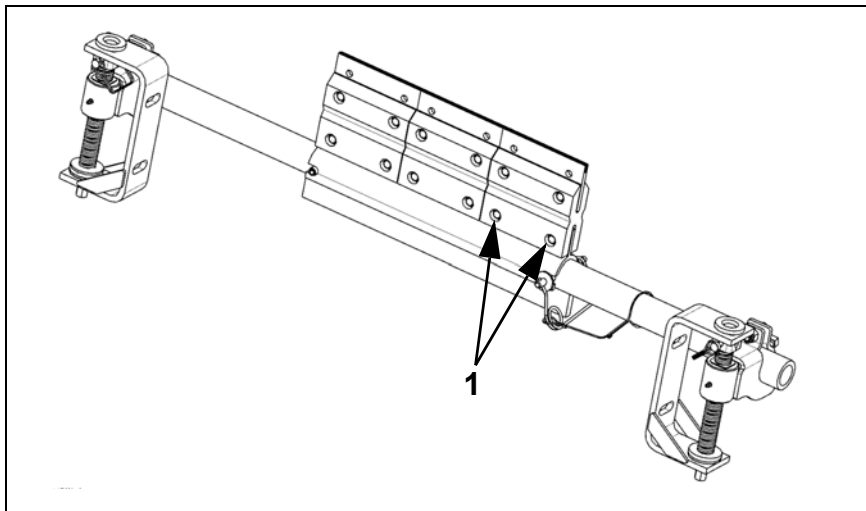

Fig. 32:
2. Loosen and remove the lower screw fittings for the specific blade (1, Fig. 32).